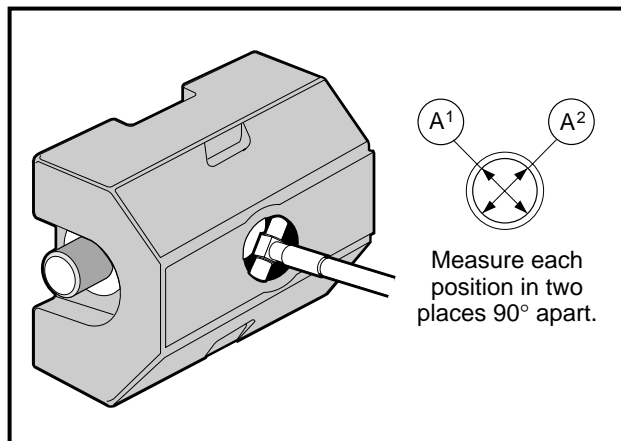

Figure 13-80 Measure Counterbalance Bearing Surface I.D.
2. Using a telescoping gauge and micrometer, measure the inside diameter of the bearing surface (**Figure 13-80, Page 13-38**).